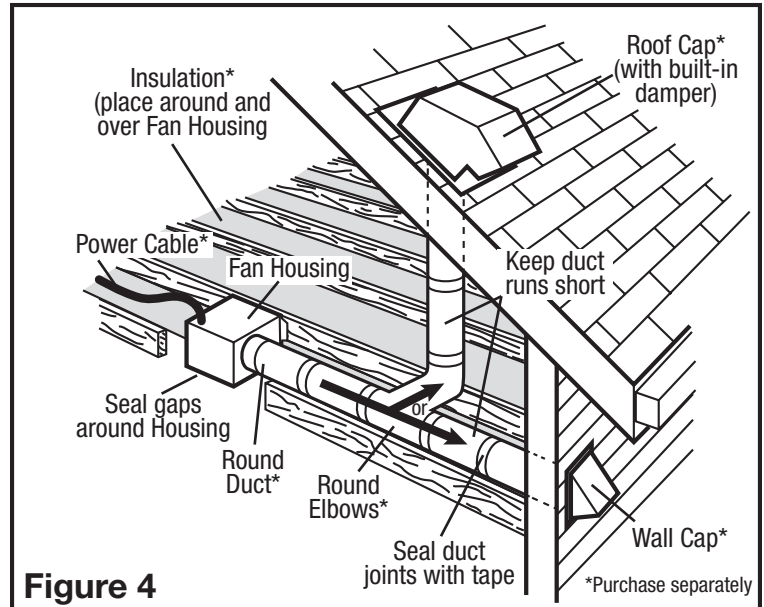

Figure 4
2. Ensure duct joints and exterior penetrations are sealed with caulk or other similar material to create an air-tight path to minimize building heat loss or gain and to reduce the potential for condensation. Place/wrap insulation around duct and/or fan to in order to minimize possible condensation buildup within the duct, as well as building heat loss or gain (**Figure 4**).